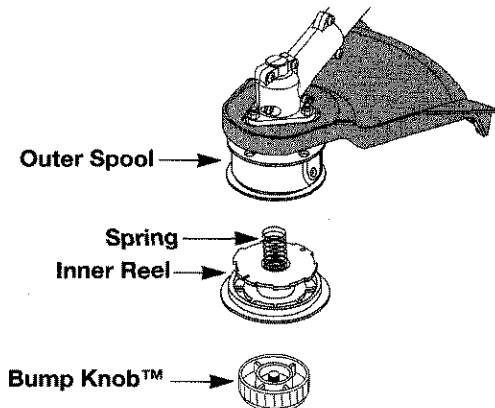

Fig. 15
1. Hold the outer spool with one hand and unscrew the Bump Knob™ clockwise (Fig. 15). Inspect the bolt inside the Bump Knob™ to make sure it moves freely. Replace the Bump Knob™ if damaged.
2. Remove the inner reel from the outer spool (Fig. 15).
3. Remove spring from the inner reel (Fig. 15).
1. Hold the outer spool with one hand and unscrew the Bump Knob™ counterclockwise (Fig. 15). Inspect the bolt inside the Bump Knob™ to make sure it moves freely. Replace the Bump Knob™ if damaged.
2. Remove the old inner reel from the outer spool (Fig. 15)
3. Remove the spring from the old inner reel (Fig. 15).